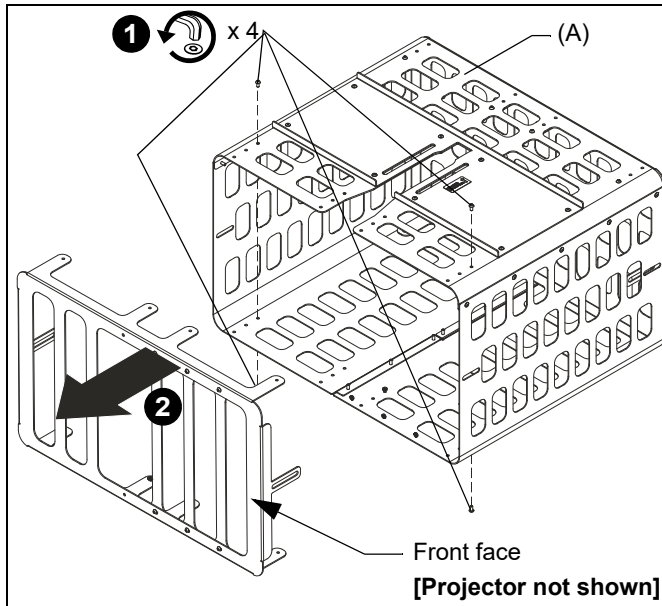

Figure 1
1. Remove **AND SAVE** four fasteners (two from top and two from bottom) from the front of the PG4A (A). (See Figure 1)
2. Remove front face of the PG4A. (See Figure 1)